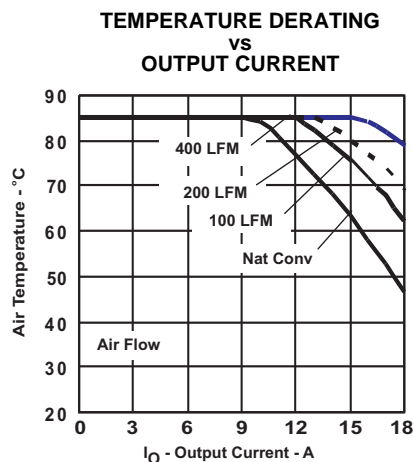

Figure 4.
- (10) The temperature derating curves represent the conditions at which internal components are at or below the manufacturer's maximum operating temperatures. The airflow direction is parallel to the long axis of the module. Derating limits apply to modules soldered directly to a 100 mm x 100 mm double-sided PCB with 2 oz. copper. Applies to Figure 4.